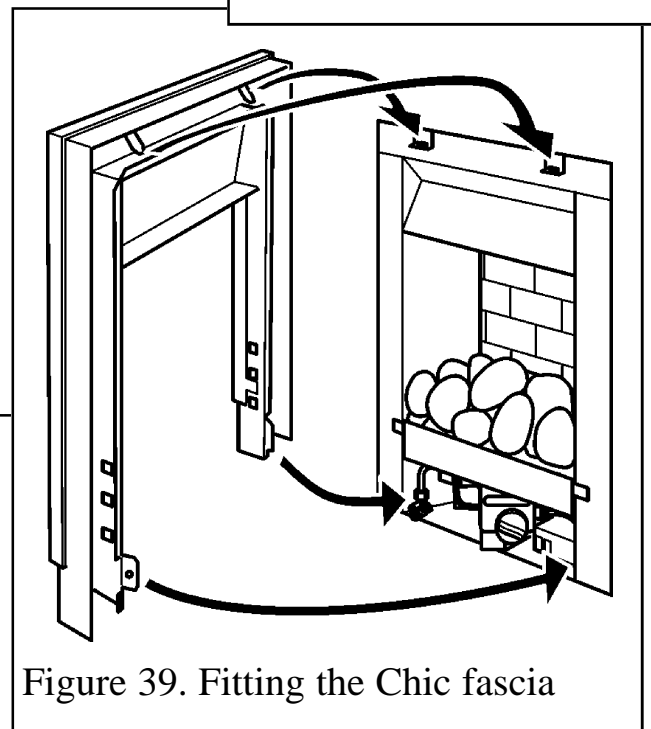
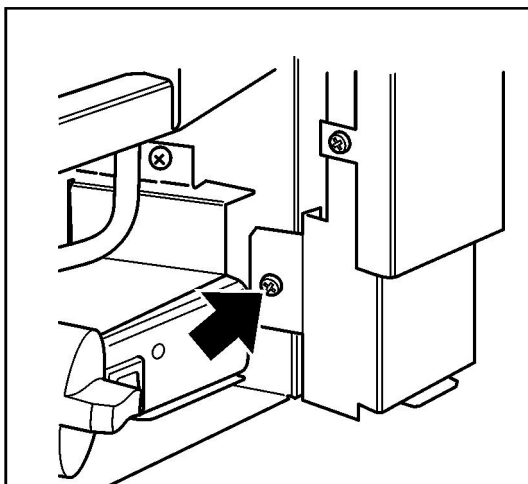

Figure 39. Fitting the Chic fascia
Figure 40. 'Chic' fascia securing screws.
3. Fit the fascia to the appliance by locating the top to the upper hanging brackets (See figure 39), then attaching it to the body of the appliance using the two screws supplied (See figure 40).